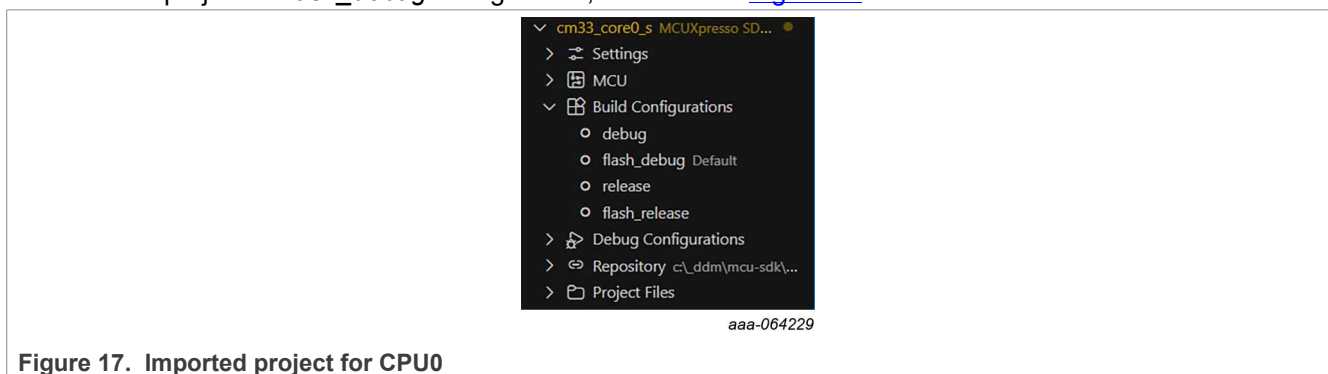

Figure 17. Imported project for CPU0
2. Build the project at `flash_debug` configuration, as shown in Figure 17.